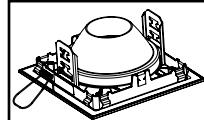
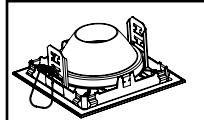
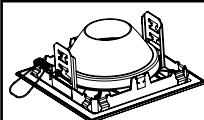

Figure 2.
Figure 3.
Figure 4.
- Elements are shipped with retention springs located for 1/2 - 1 inch thick ceiling installations (Figure 2.). For ceilings greater than 1 inch thick the springs must be relocated. To relocate spring, push spring body to one side of bracket compressing the coils. Pivot spring body so that it is disengaged from the tabs (Figure 3.). Remove spring from bracket (Figure 4.). Install spring in upper position by hooking the short legs of the spring on the inside of bracket (Figure 5.) and sliding spring body over tab (Figure 6.). Compress spring coils and guide spring body over second tab (Figure 7.).